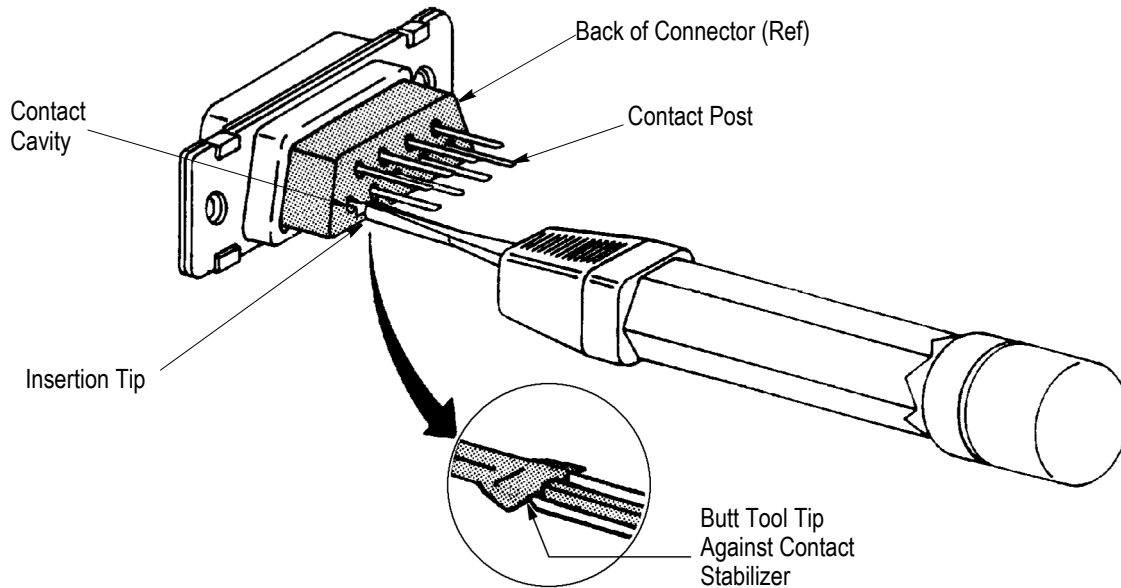

Figure 5
**4.3. Inserting A Posted Contact (Figure 5)**
2. Position the tip over the contact post. Move the tool along the post until the tip butts against the contact stabilizer. Align the tip on the stabilizer as shown in Figure 5.